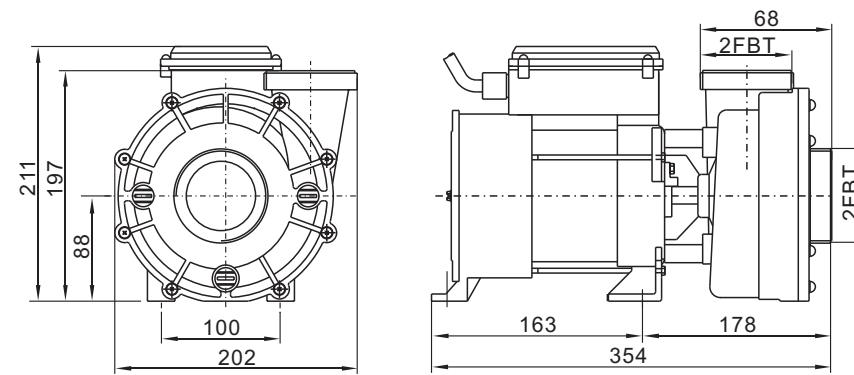

Fig.2
- Pumps must be level installment, Dimensions and position of the pump for supporting and fixing the pump within this space (Fig.2).